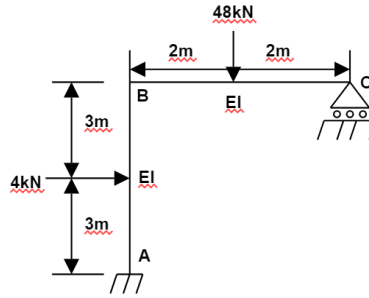

Figure 9
7. Analyze the plane frame shown in Figure 9 by direct stiffness method. Assume that the flexural rigidity for all members is the same. Neglect axial displacements. [14M]